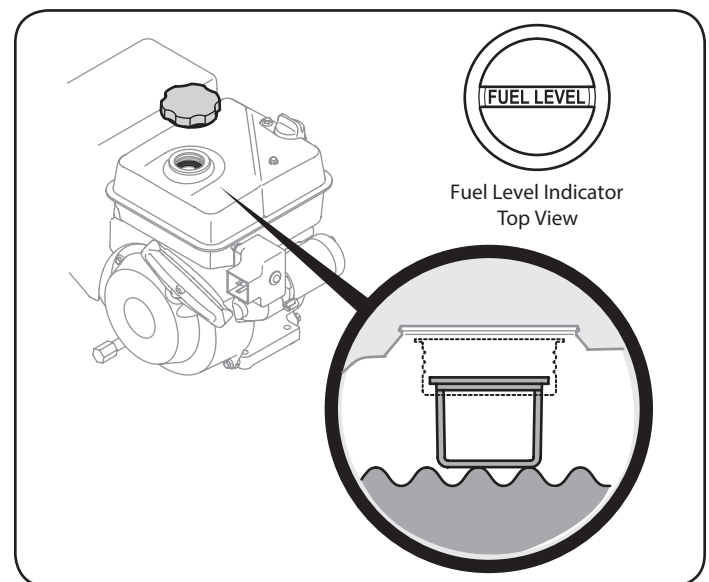

Figure 8
4. Fill the tank until the fuel reaches the "fuel full" indicator mark. See Figure 8.